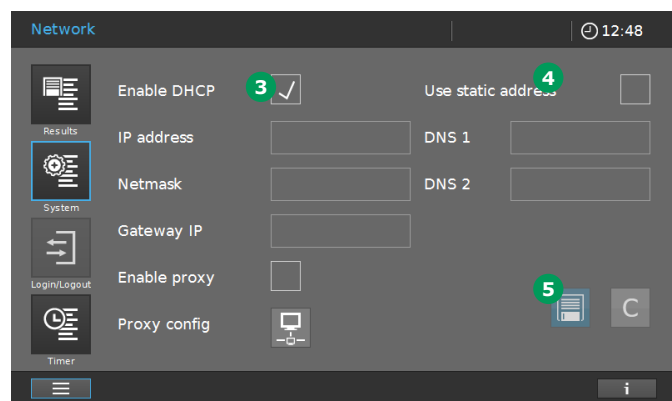

Figure 14 - After clicking on "Network" in the previous window (Figure 13), this window will appear
2. Select "Enable DHCP" (3) (Figure 14) if a DHCP-server is available in the network or select "Use static address" (4) and enter the network parameters (IP address, netmask, gateway, proxy) provided by your system administrator into the configuration menu.
3. To confirm click the Save button (5).